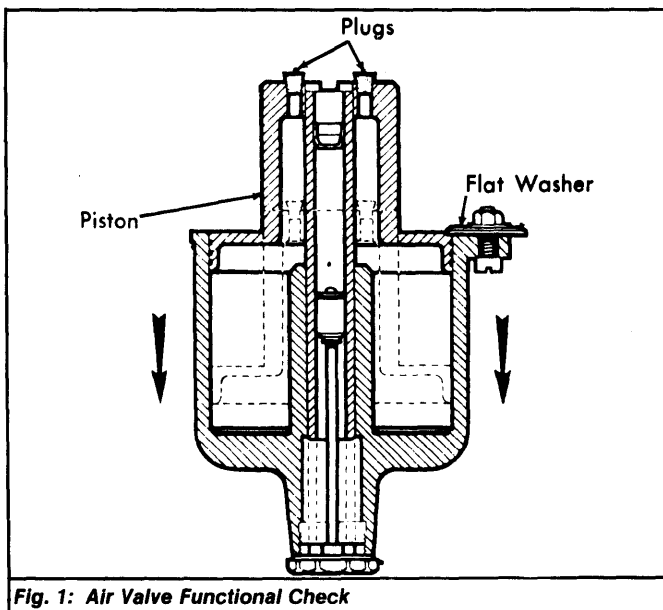

Fig. 1: Air Valve Functional Check
2) Raise air valve up against flat washer and then release. See Fig. 1. It should take 5-7 seconds for air valve to fall the full extent of its travel. If, after thorough cleaning and checking for damage, air valve doesn't fall within 5-7 seconds, replace air valve and vacuum chamber.